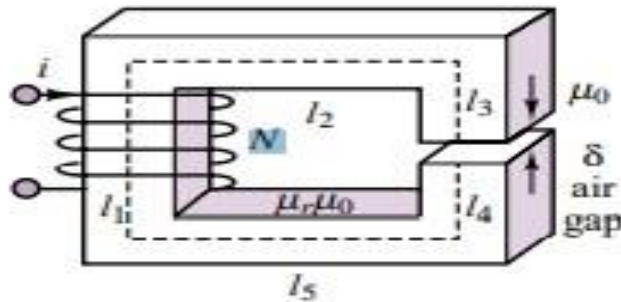

Fig 5.0
- (1). Determine the inductance and the magnetic stored energy for the structure of Fig. 5.0 The structure is identical to that of except for the air gap. (Assume the reluctance of the magnetic structure is negligible).
- (2). Assume that the flux density in the air gap varies sinusoidally as $B(t) = B_0 \sin(\omega t)$ with frequency =60 Hz. Determine the induced voltage across the coil, e